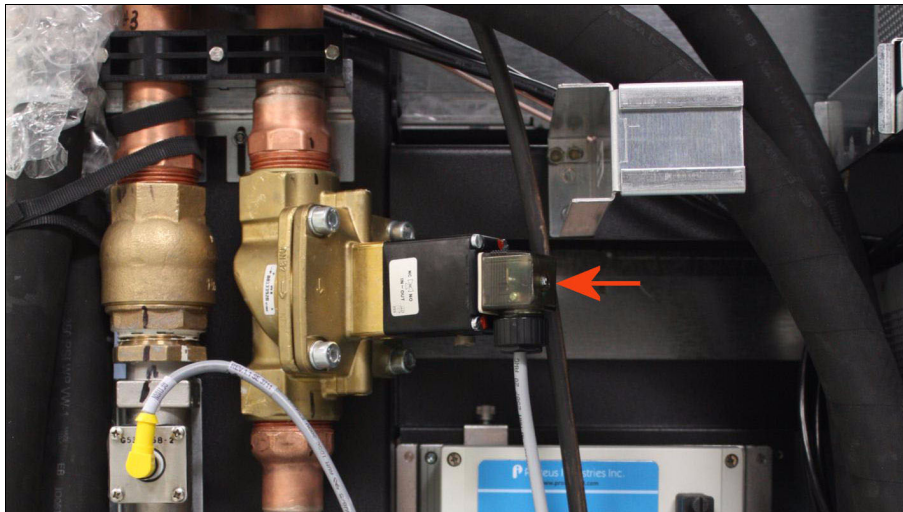

Figure 4-38 Coolant monitor solenoid connector screw location³
11. Disconnect the solenoid valve cable by fully loosening the thumbscrew and pulling the cable straight away from the valve. If the thumbscrew cap comes off, use a 2.5 mm allen wrench. See Figure 4-38.